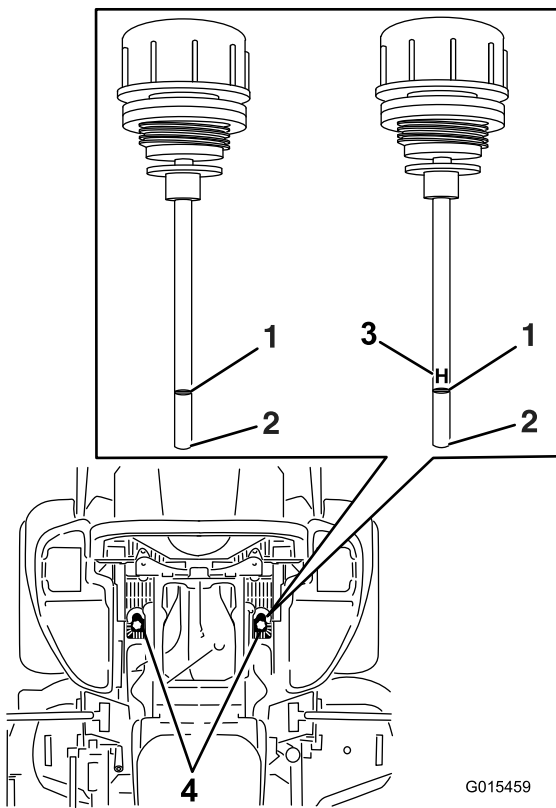

Figure 82
6. Clean the area around the dipsticks of hydraulic system reservoirs (Figure 82).
7. Remove one dipstick from the hydraulic reservoir (Figure 82).
9. Remove the dipstick and look at the end (Figure 82). If the oil level is at the add mark, slowly pour only enough oil into the hydraulic reservoir to raise the level to the full or **H** line.